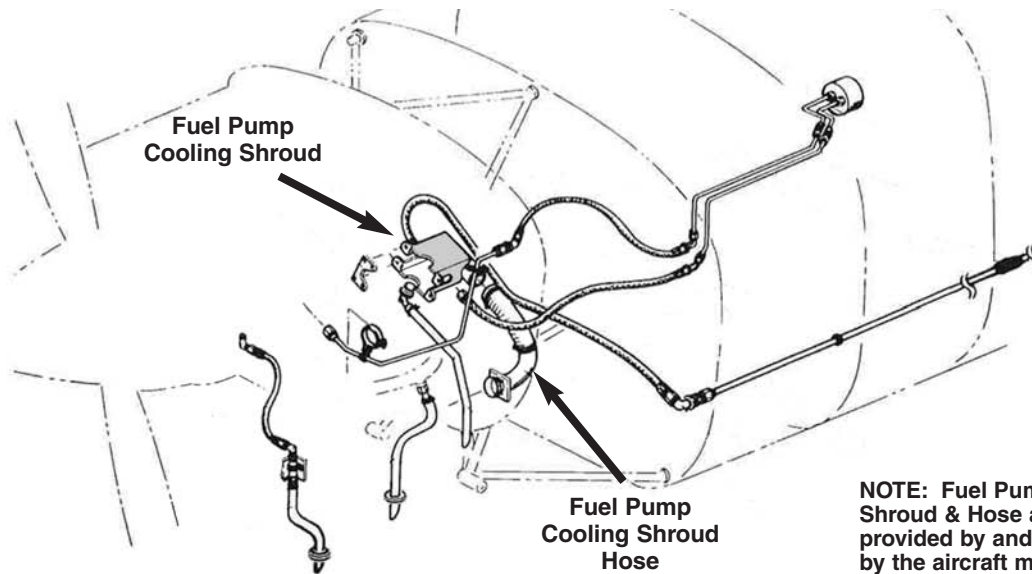
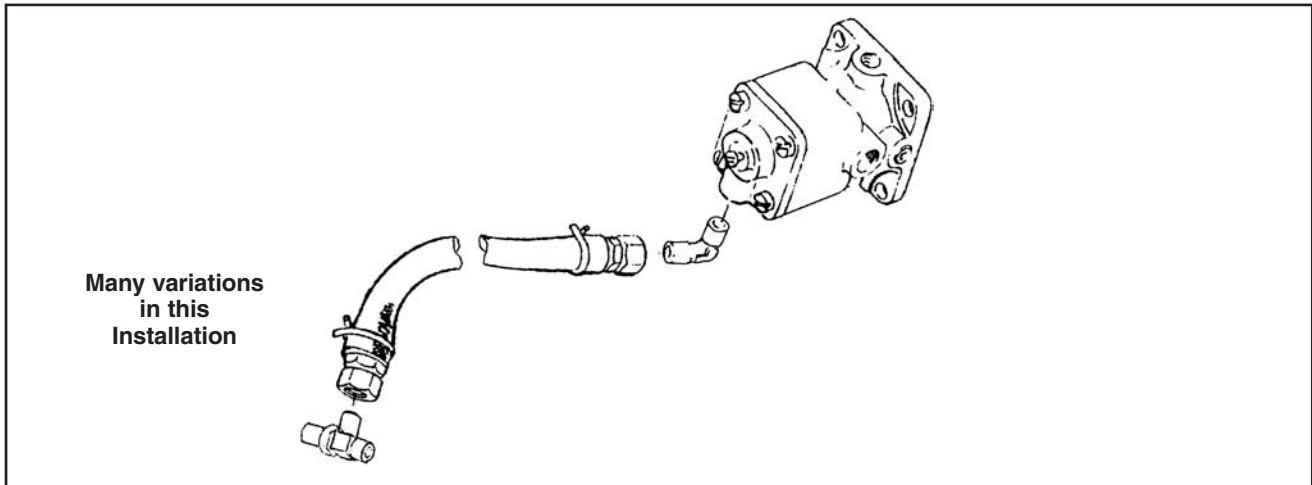

Figure 4 - Typical Cooling Shroud Installation
Figure 5 - Typical HET 201F Fuel Pump Plumbed to Upper Deck Reference
- (b) Inspection of the upper deck reference line requires that the line be disconnected and the inside of the fitting be inspected for fuel or blue dye stains. Refer to Fig. 5 and 6.
- (2) Inspection for fuel or blue dye stains may require use of a “Q” tip cotton swab or similar device to check for the presence of fuel or blue dye.
- (3) If fuel or blue dye stains are not found, refer to Compliance 1.E(1)b and continue to Corrective Action 3.C as convenient.
- (b) If removed, reinstall the fuel pump cooling shroud and air hose (if applicable) in accordance with latest engine/airframe service instructions or maintenance manual and continue to “Return to Service” 3.D.(1). Refer to Fig. 4.
- (4) If fuel or blue dye stains are found, continue to “Corrective Action” 3.C.
C. Corrective Action - Choose (1), (2), or (3):